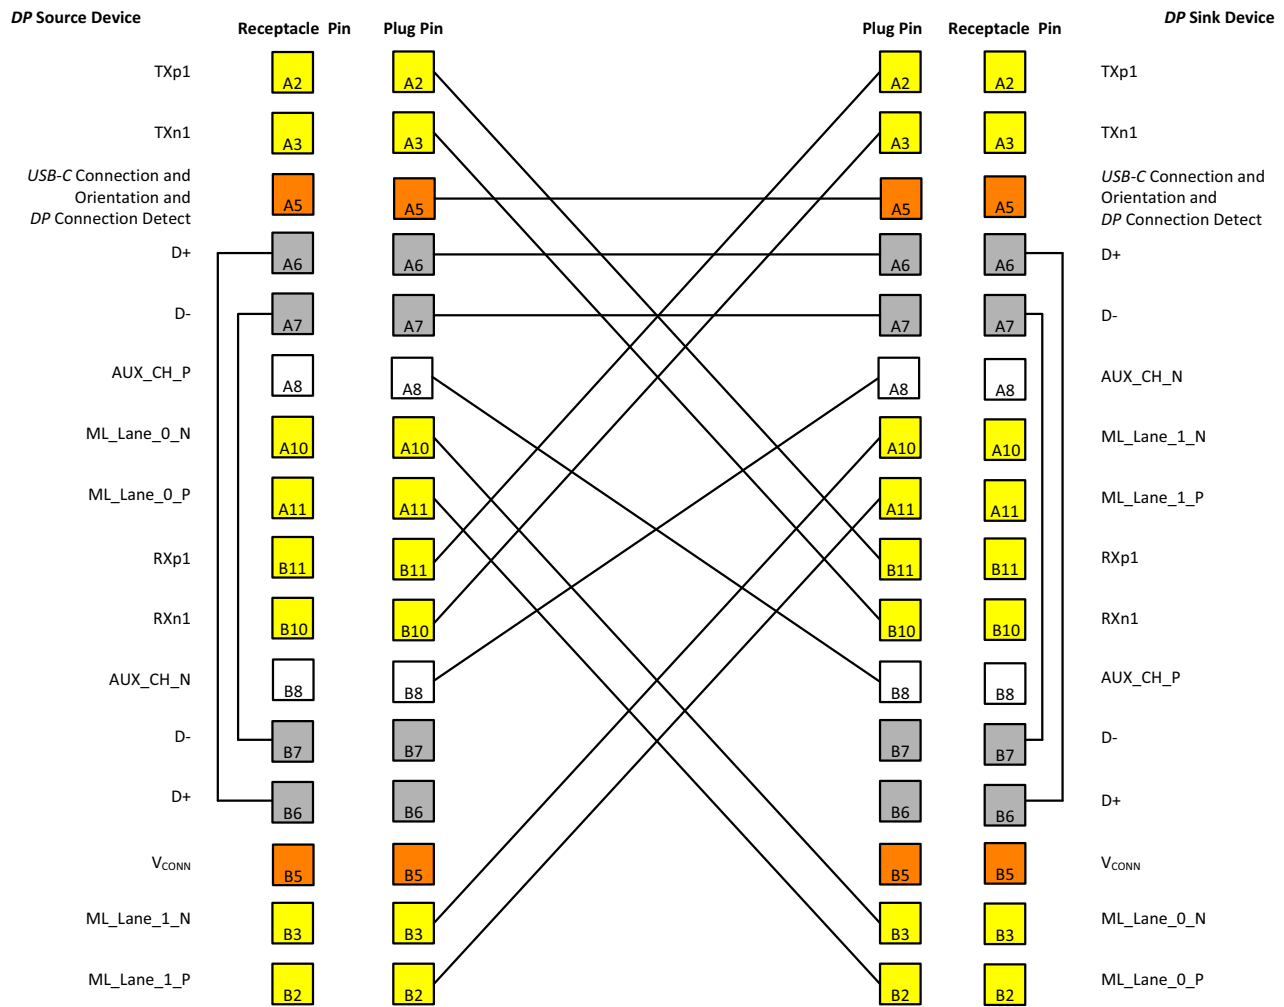

Figure 4-22: Scenario 4a Multi-function Cable Wiring – Normal Plug Orientation
- Figure 4-22 illustrates when the plugs at both ends are inserted in normal orientation